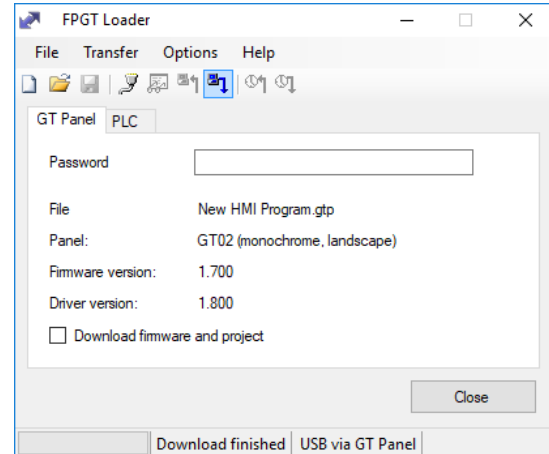

Figure 9
- 16) The HMI will display status messages during the file transfer process and the FPGTLoader program will display in the bottom section of the screen Download finished when complete. (Figure 9)